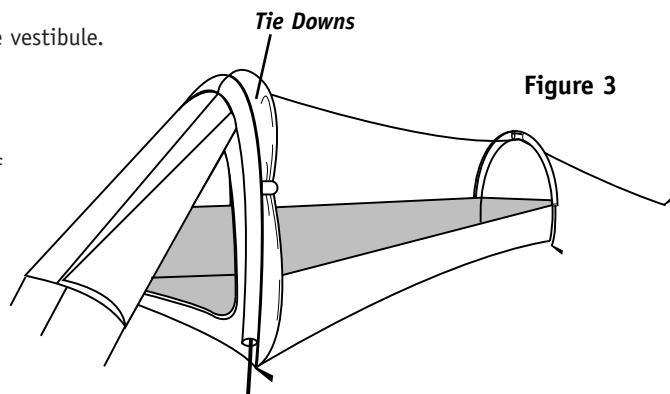

Figure 3
1. The rainfly can be rolled up to maximize the ventilation of the mesh at the top of the tent. To do this, roll the fly starting at the back and use the tie downs on the front sleeve to secure. See figure 3.